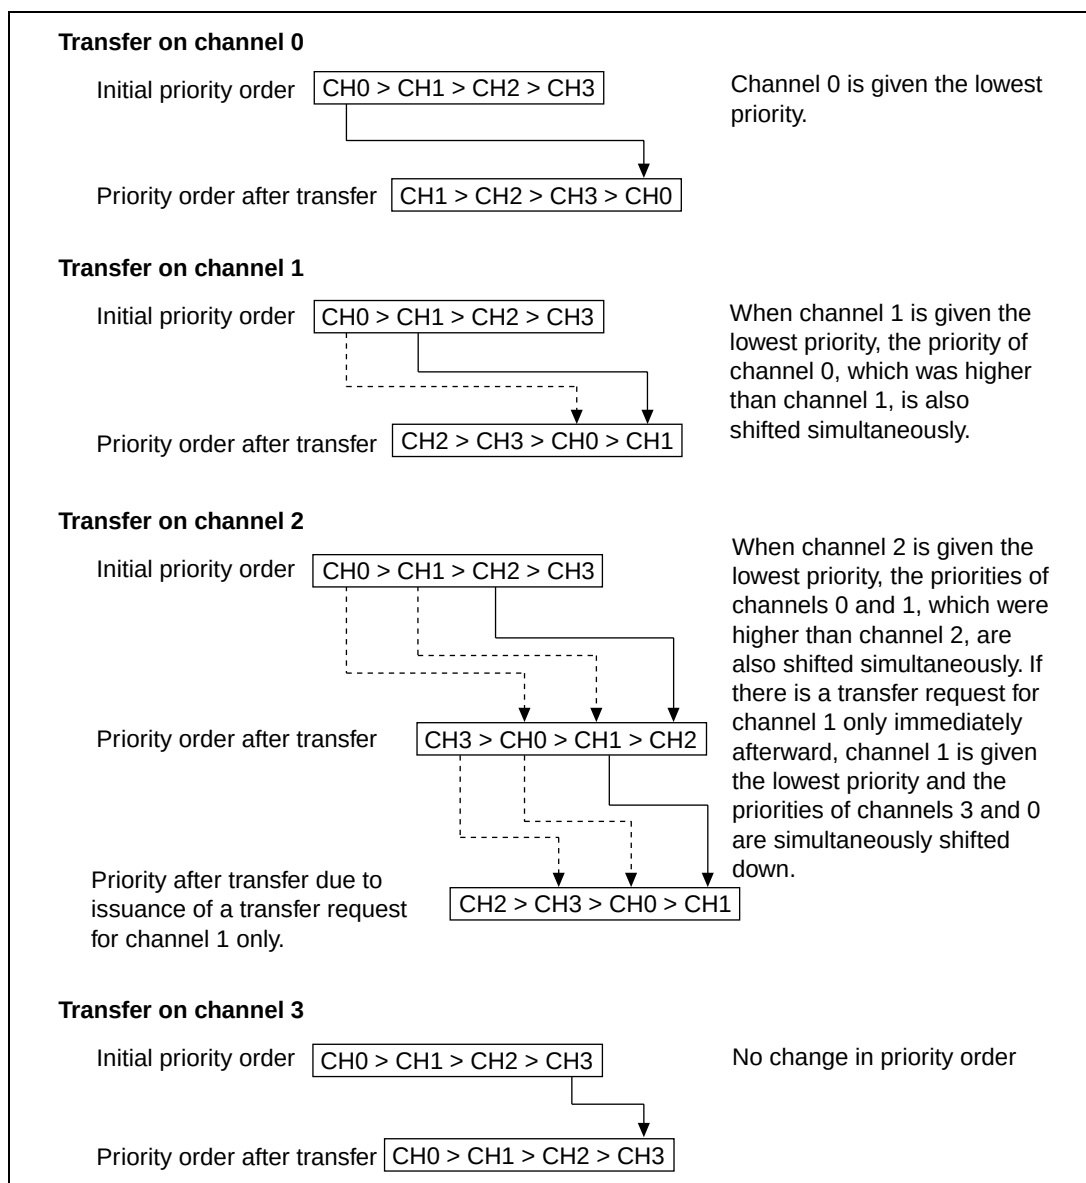

**Figure 14.3 Round Robin Mode**
**Round Robin Mode:** In round robin mode, each time the transfer of one transfer unit (byte, word, longword, quadword, or 32 bytes) ends on a given channel, that channel is assigned the lowest priority level. This is illustrated in figure 14.3. The order of priority in round robin mode immediately after a reset is CH0 > CH1 > CH2 > CH3.